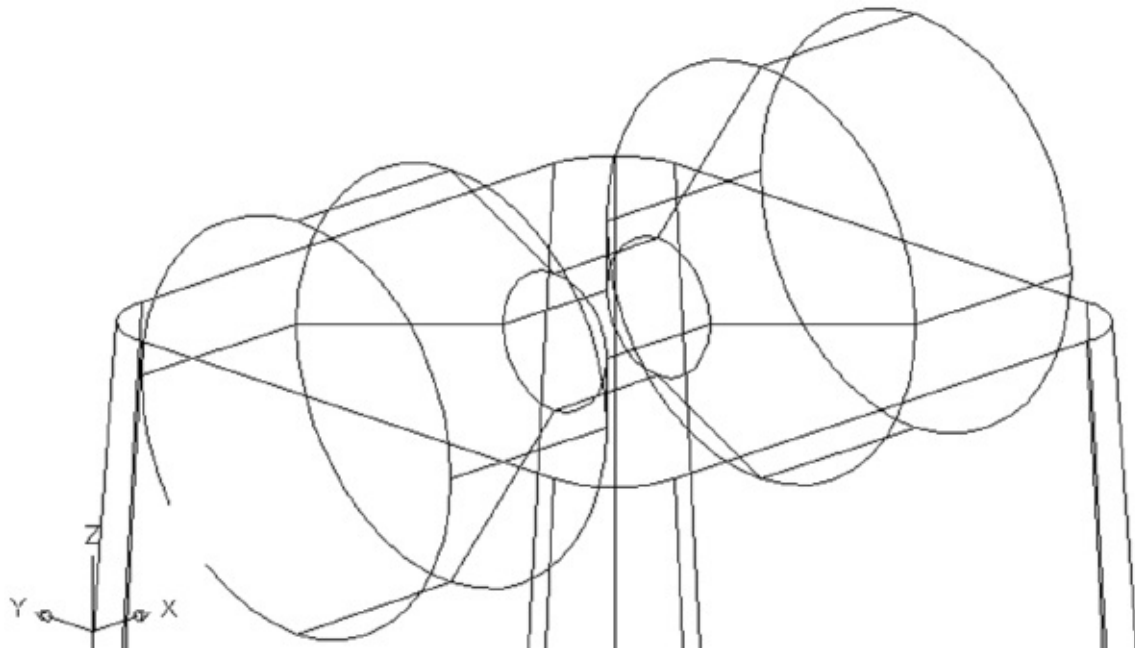

FIGURE 22.12 The revolved polyline
8. At the Specify angle of revolution or [Start angle/Reverse/Expression] <360>: prompt, press ↵ to sweep the polyline a full 360°. The revolved form appears as shown in Figure 22.12.